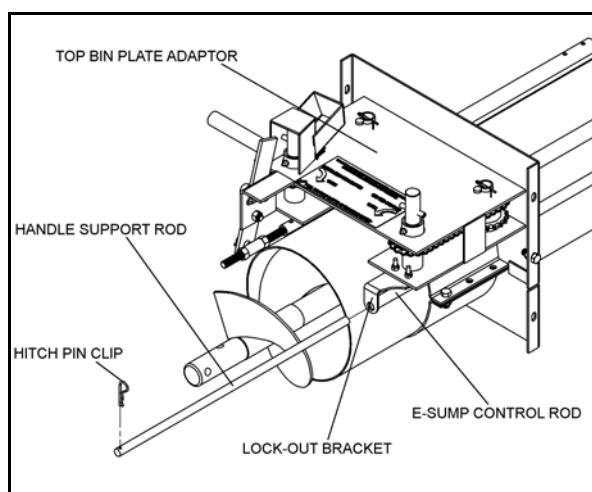

**Figure 4.10**
15. Slide the E-Sump control rod through the 7/8” hole in the top bin plate adaptor, through the control rod brackets and until the pre-drilled holes in the E-Sump control rod line up with the holes in the E-Sump gate coupler (Figure 4.10 and 4.11). Attach the E-Sump control rod to the gate coupler using two 1/4” x 1-1/2” bolts and locknuts.